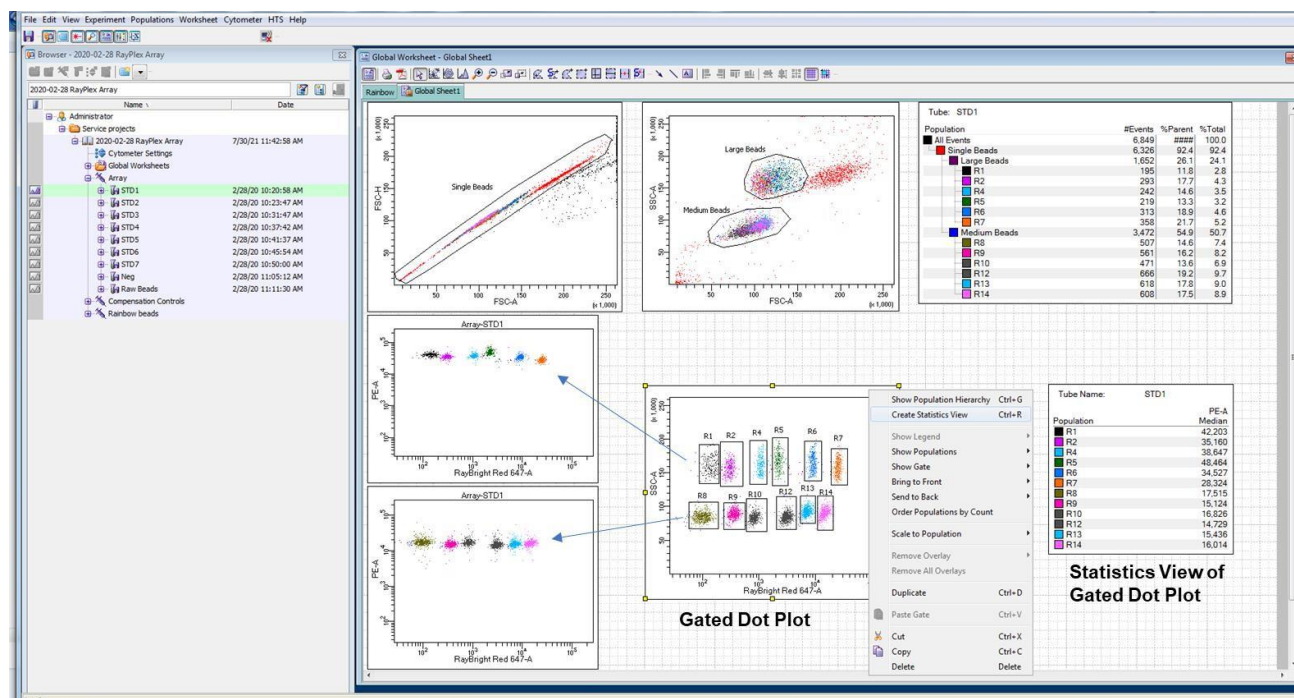
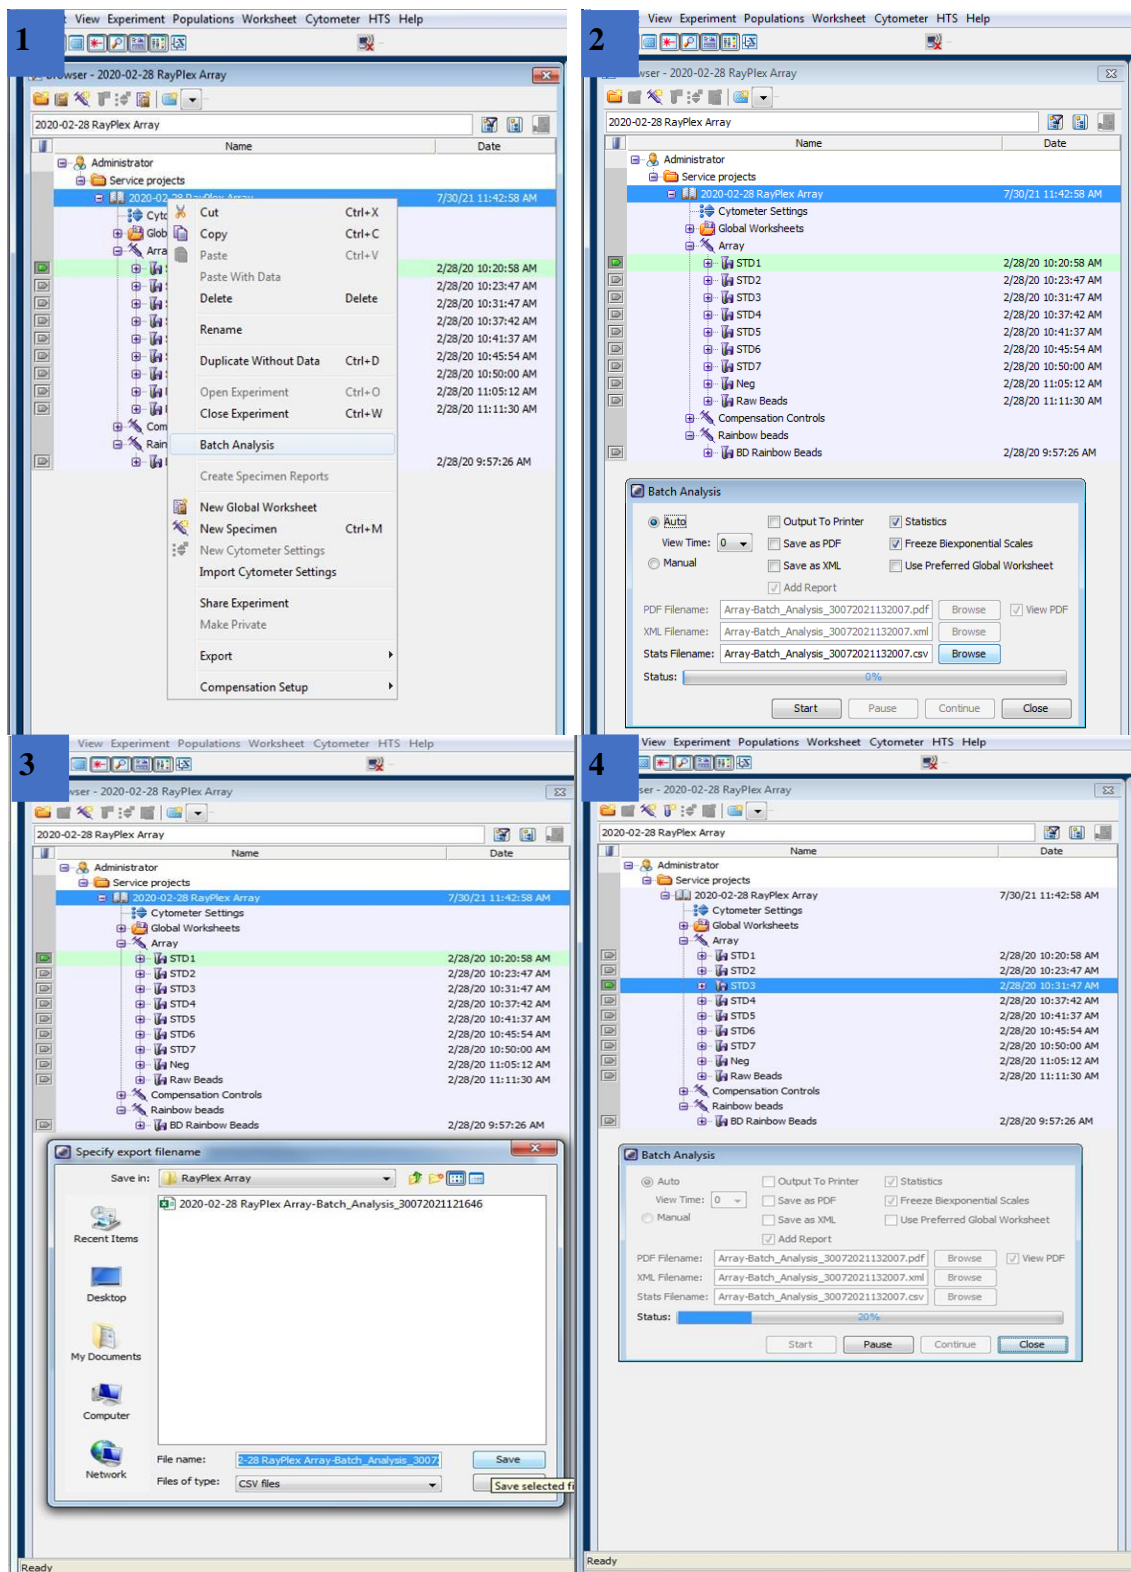

Figure 4. Screenshot of Creating Statistics View from the dot plot of gated beads populations. This is representative data only.
Figure 5. Screen shot showing how to begin the batch analysis through manual tubemode.
Batch analysis allows exporting PE MFI data of each bead population directly from FACS Diva. Before batch analysis, it's important to create statistics view from the dot plot of gated beads populations and choose “PE-A Median” to be shown (Figure 4). Batch analysis can be done in either manual tube mode or HTS mode. Both methods for batch analysis are described below (Figure 5 and 6).
1. Create a dot plot by SSC-A (linear) and APC-A (log) to show all beads populations and make a gate for each population (see figure 4, “Gated Dot Plot”, R1~R14). Right click on the dot plot to “Create Statistics View”, then edit the statistics view so that “PE-A Median” of gated beads populations are shown (figure 4, “Statistics View of Gated Plot”).